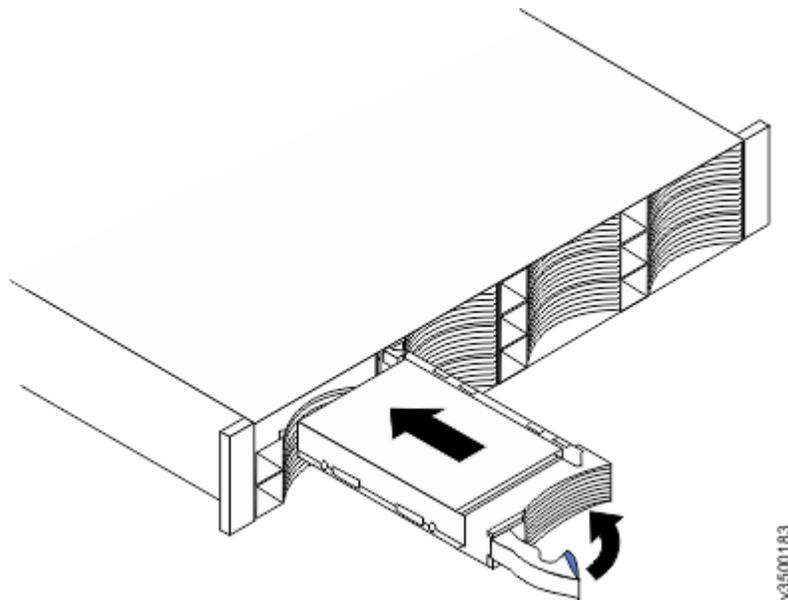

Figure 114. Installing and locking a 3.5-inch drive into its slot
13. Align the drive assembly with the guide rails in the bay (see Figure 114 on page 178).